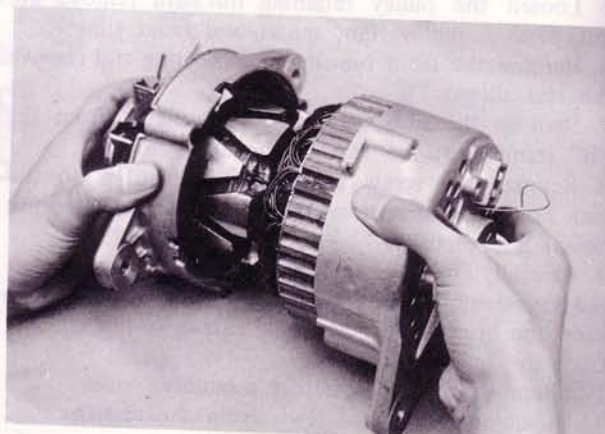

Fig. 5-25 Installing rotor assembly
1. When installing the rotor assembly to the rear housing and stator assembly, hold the brushes in position by inserting a piece of stiff wire into the hole of the brush through the rear housing as shown in Fig. 5-25.